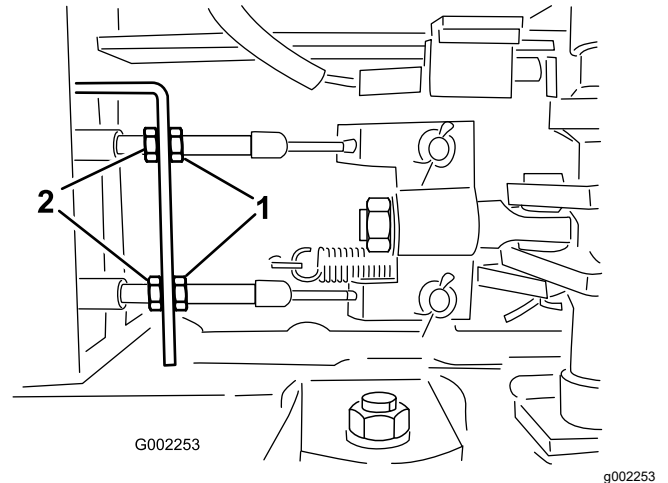

Figure 93
5. Loosen the front jam nuts on the brake cables under the front end of the sprayer (Figure 93).
6. Tighten the rear jam nuts equally until the brake pedal moves between 1 to 2 cm (1/2 to 1 inch) before you feel resistance (Figure 93).